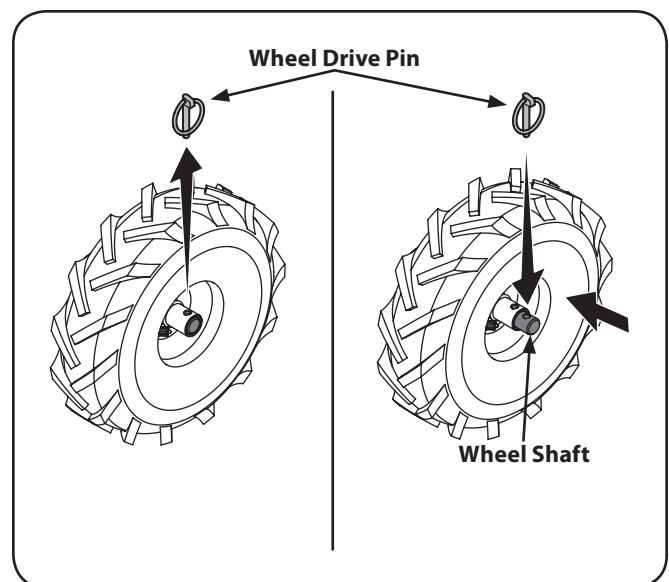

Figure 3-5
- Remove the wheel drive pin from the wheel hub and wheel shaft. See Fig. 3-5.
- Slide the wheel fully inward on the wheel shaft. Reinstall the wheel drive pin through the wheel shaft only (not through the wheel hub). See Fig. 3-5. The wheel should now spin freely (freewheel) on the wheel shaft. Repeat with the other wheel.